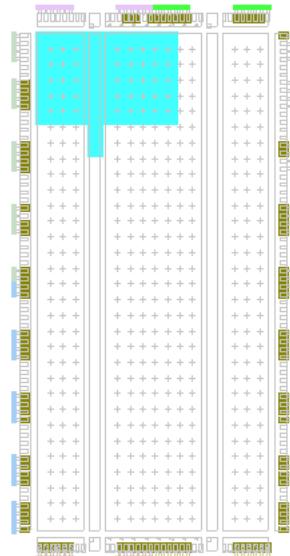

Figure 6: Viewing the Newly Created Area Group
- When you release the left mouse button, the Area Group appears with the selected color (Figure 6).
**Note:** In Figure 6 the Area Group is not exactly the same shape as what was drawn. This is because the Tracking\_Module contains a block RAM and so PACE automatically created two separate Ranges. One range covers the CLB logic and the other range covers the block RAMs. MAP and PAR will consider these two ranges as two separate AREA GROUPS, one for the slices and one for the block RAM. This will also happen for TBUFS and Multipliers.